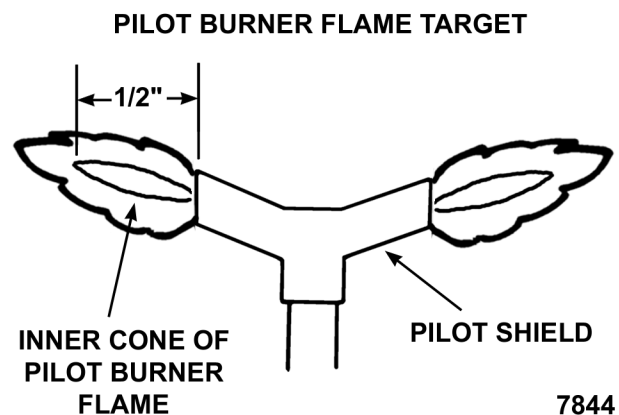

Fig. 35
3. Verify flame does not extend beyond the outer edges of pilot shield 1/2", or extends more than 1/2", (Fig. 35). If adjustment is necessary continue with procedure.